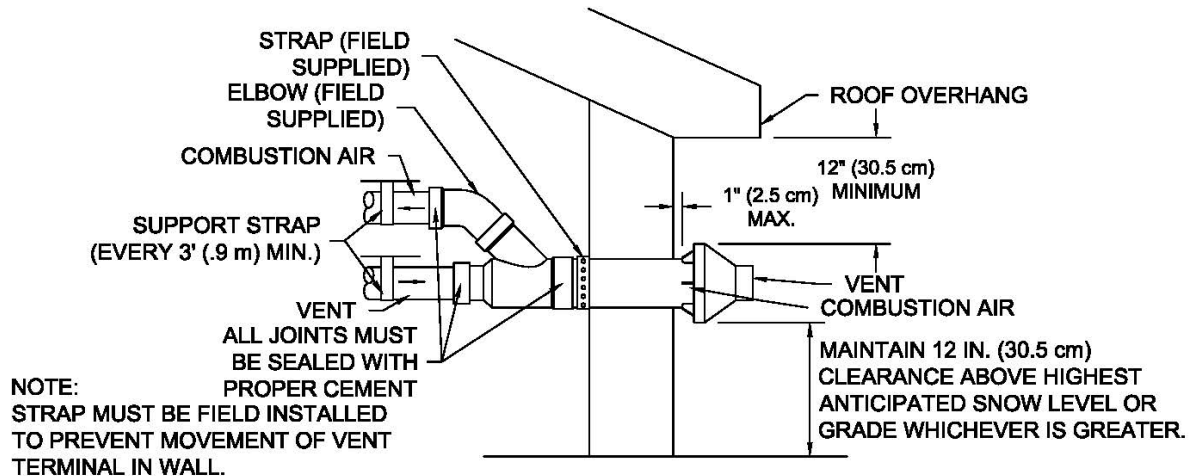

Figure 23a. Concentric Vent Side Wall Attachment
7. Secure assembly to structure as shown in Figure 23a. Ensure clearances as shown in Figure 23a.
8. Cement heater combustion-air and vent pipes to concentric Y fitting termination assembly. See Figure 23a for proper pipe attachment.